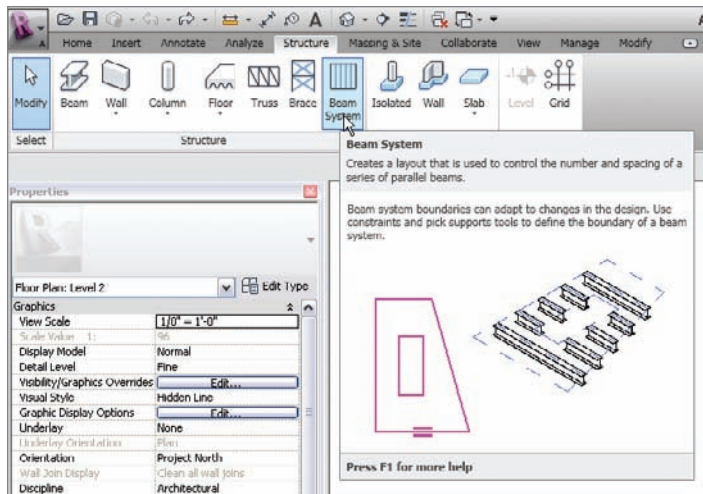

FIGURE 8.39 The Beam System button
1. On the Structure panel of the Structure tab, click the Beam System button, as shown in Figure 8.39.